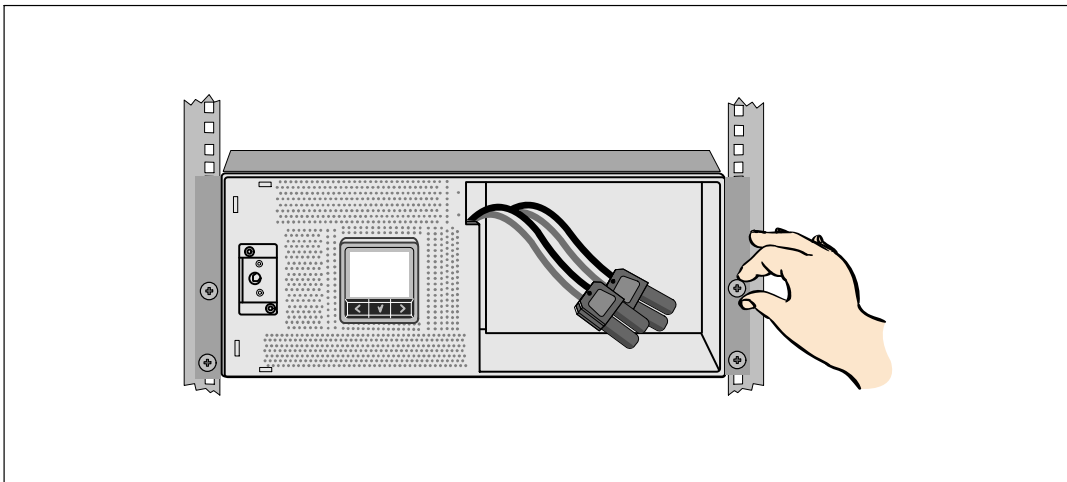

Figure 13. Securing the Cabinet
- 7 Secure the front of the cabinet to the rack using the four thumbscrews on the mounting brackets (see Figure 13). Tighten by hand; do not use power tools. Repeat for any additional cabinets.